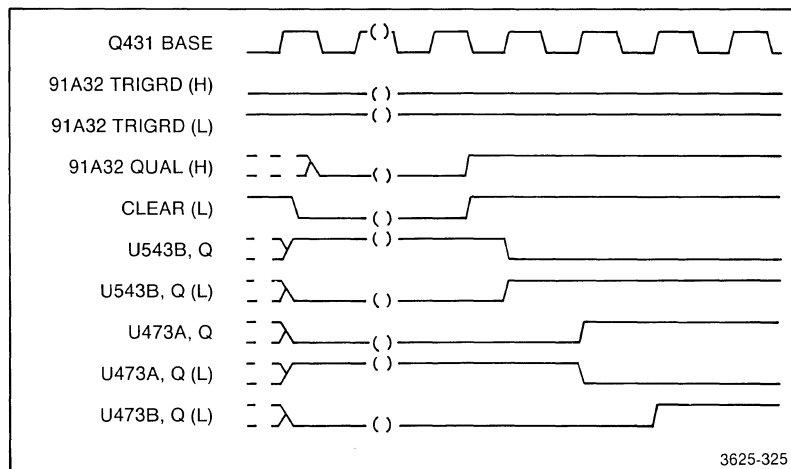

Figure 4-29. Initiating the pipelined internal timing sequencer.
acquired word are not processed on the same clock cycles. The pipeline is initiated at start-up time as shown in Figure 4-29. The pipeline is preset by the CLEAR(L) line.